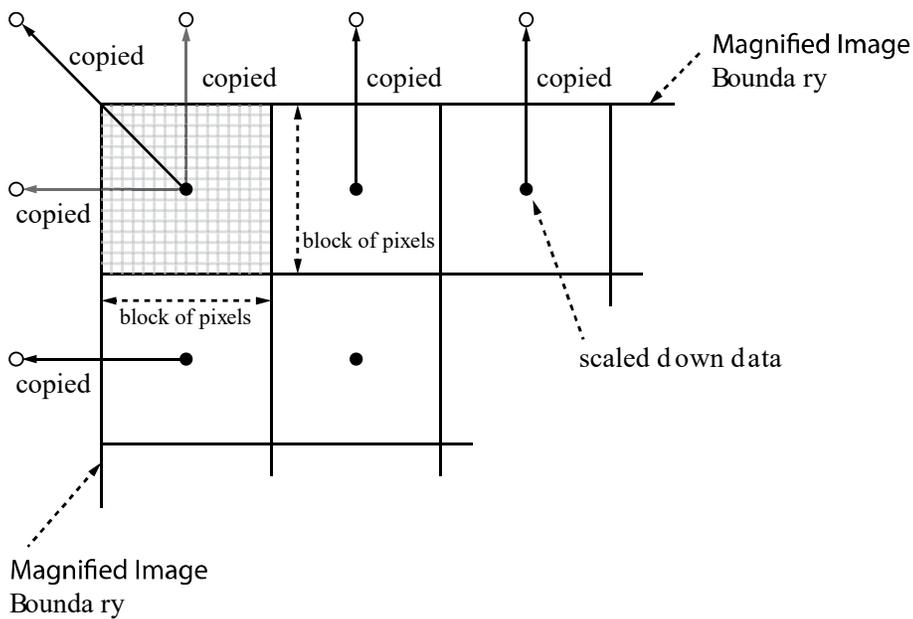

Figure 9-7 Bilinear Interpolated Magnification
3. Execute the **Flat Field Data Save** parameter to save the generated Flat Field data into the non-volatile memory. When the scaled down Flat Field data are used for correction, they are expanded and applied with a Bilinear Interpolation as shown in the **Figure 9-7**.